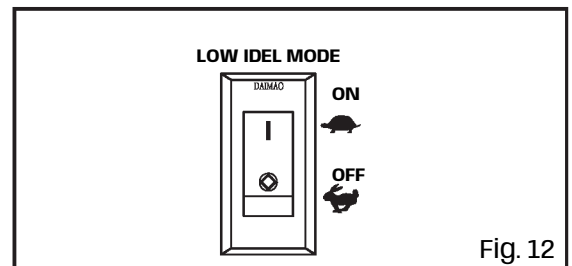

Fig. 12
1. Turn the LOW IDLE MODE switch (Fig. 12) to "OFF".